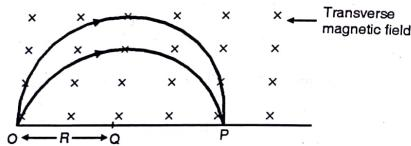

Fig. 7.11.3 : Focussing in transverse magnetic field
- Consider the motion of charged particles in a transverse magnetic field. Suppose a beam of charged particles with the velocity perpendicular to a magnetic field. Originates at point  $O$  (Fig. 7.11.3).